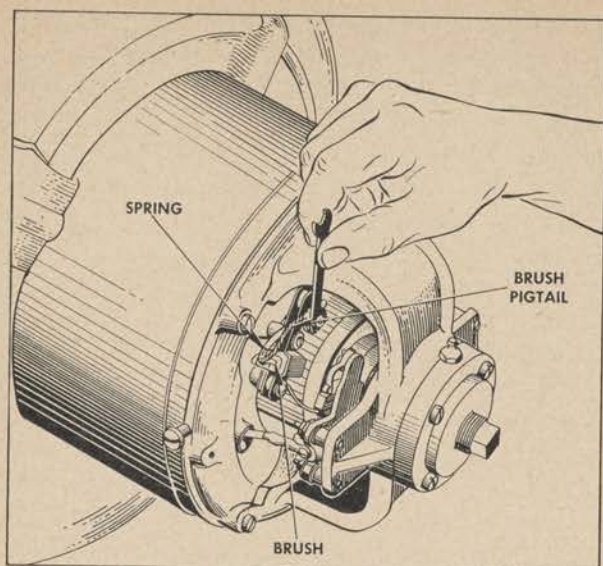

Figure 287. Replacing generator commutator brushes.
c. REPLACING GENERATOR COMMUTATOR BRUSHES. Remove the two screws holding the commutator end bell cover to the generator exciter housing. There are two main brushes, one on each side of the commutator. Disconnect the brush pigtail by loosening the nut on the brush holder. (See fig. 287.) Raise the brush spring off the brush and move to one side. Withdraw the used brush. Rotate the generator commutator and with a soft cloth or very fine sandpaper, clean commutator bars of any accumulation of carbon. Do not undercut the mica insulation between the commutator bars. Install new brush, replace spring and connect pigtail. To make sure of perfect brush fit before full power is delivered, run the Diesel engine with the auxiliary control box main switch in the ON position until 108 to 112 volts are indicated on the voltmeter.